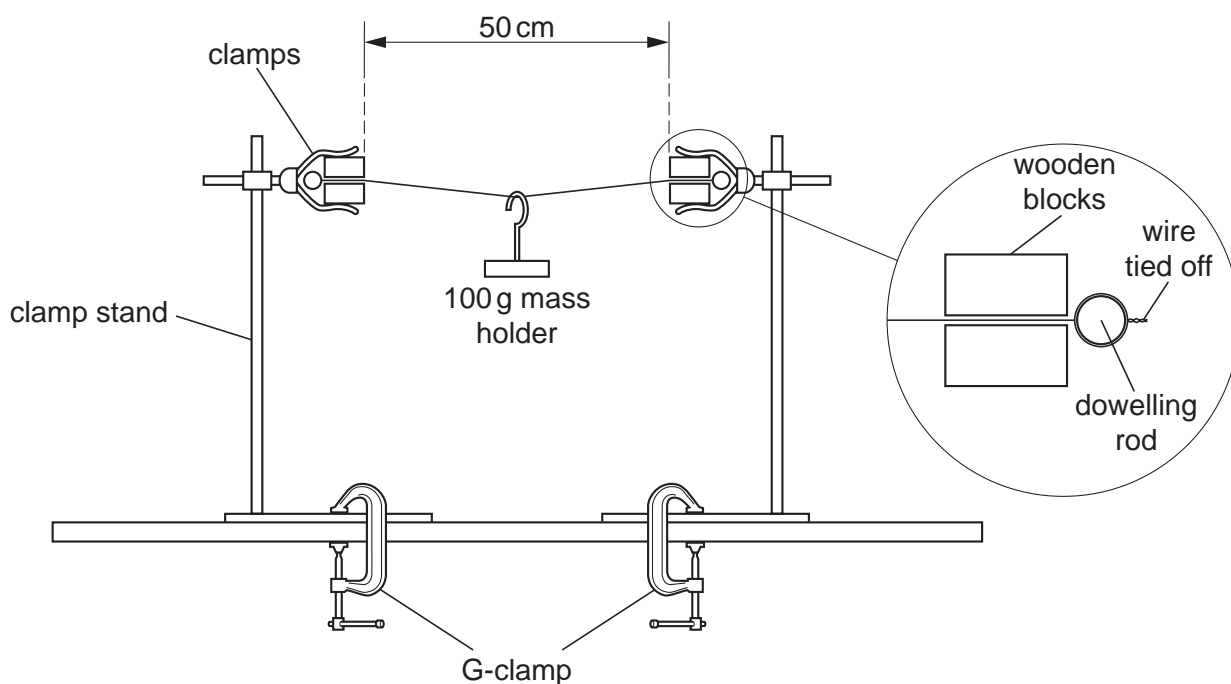

Fig. 2.1
- 1 Wrap each end of the constantan wire around a wooden dowelling rod several times and secure it. Place each end of the constantan wire between two wooden blocks and hold firmly in the clamps, as shown in Fig. 2.1. The length of wire between the two pairs of wooden blocks should be approximately 50 cm, and the wire should be positioned about 40 cm above the table. The retort stands should be clamped firmly to the table. The 100 g mass holder should be placed so that it hangs down from the middle of the wire. Check that each boss, clamp and G-clamp is secure before the experiment starts and check that the wire will not move between the wooden blocks.
- 3 If the apparatus is to be used by a second candidate, dismantle the electric circuit **only** and check that the rest of the apparatus is still as in Fig. 2.1 and that the bosses, clamps and G-clamps are secure.